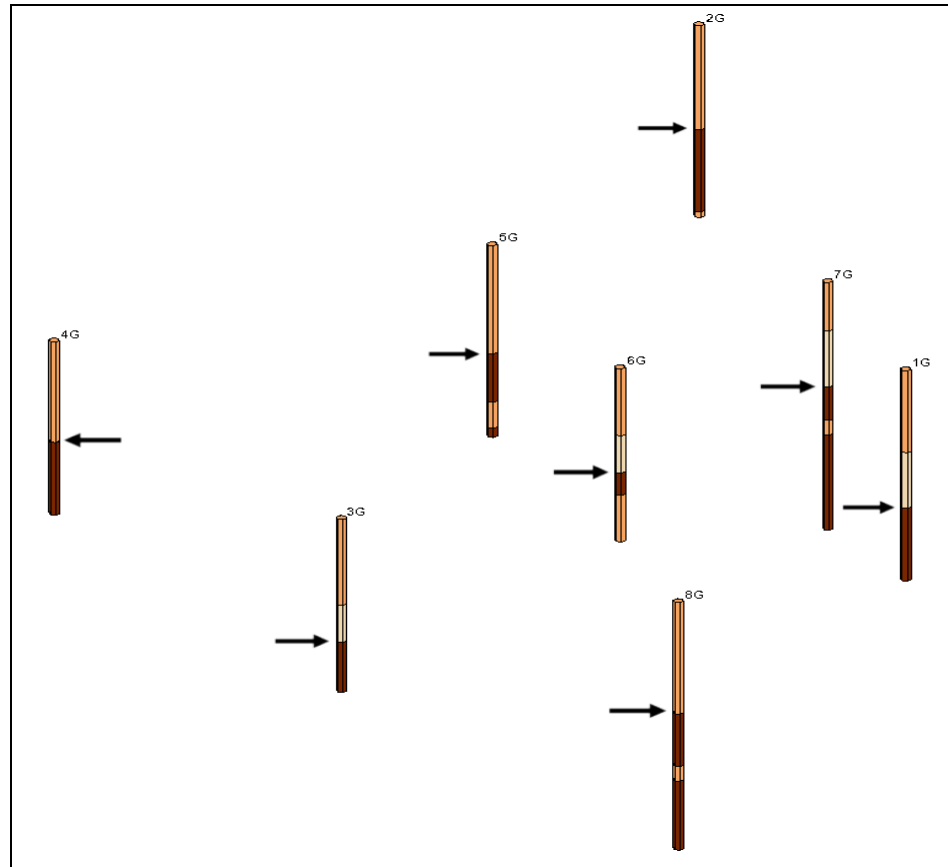

Figure 6 Contacts for Horizon 3
2. Select the borehole contacts shown in Figure 6 above.